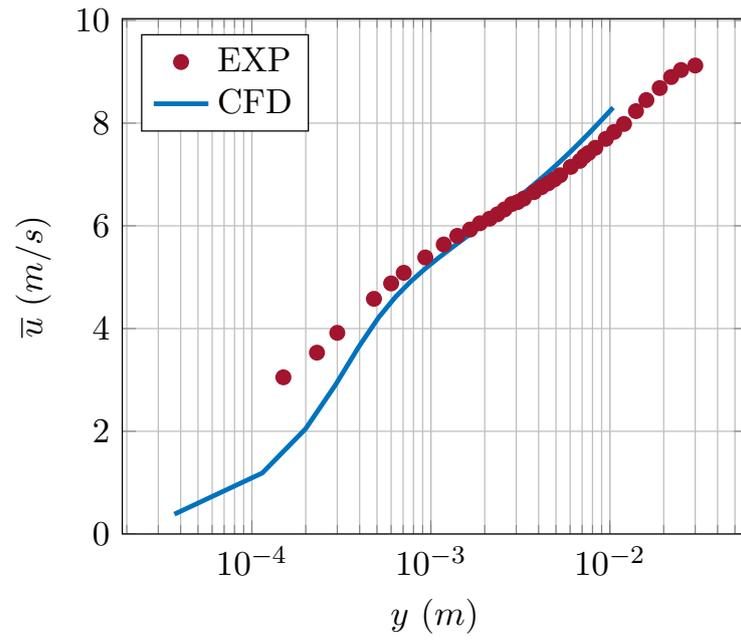

Figure 8.2: Turbulent boundary layer velocity profile – CFD results compared with measured data.
- a) Plot the turbulent data from the CFD simulation compared to the corresponding data provided in MTF053\\_CA2.ipynb (also in Appendix C). The plot should be somewhat similar to Figure 8.2.